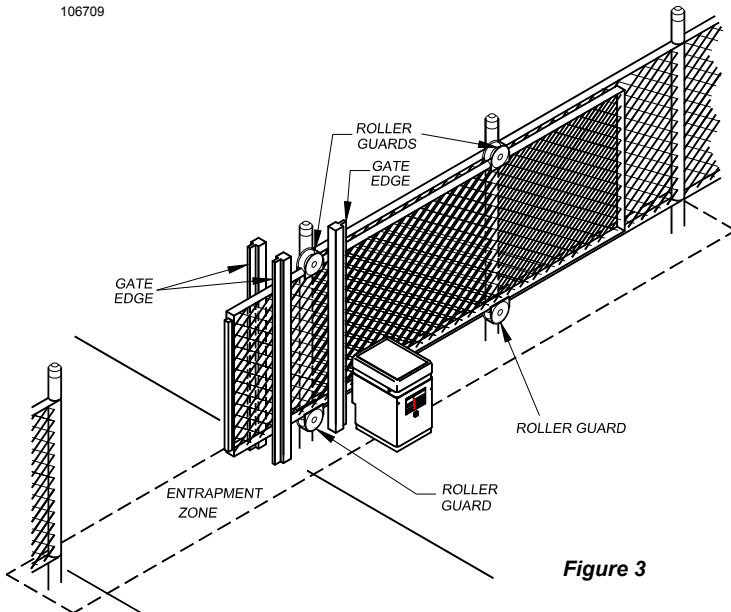

Figure 3
- Use the illustration at left (Figure 3) to minimize the risk of injury in your design of the swing gate operator system. **IDENTIFY THE ENTRAPMENT ZONES AND PINCH POINT AREAS IN YOUR GATE.** Design the gate installation to minimize the risk of entrapment in these areas. Install additional safety equipment such as four wire edges and photocells to further minimize risk. All entrapment zones are required to be protected.
- **Entrapment Zones:** Design in personal entrapment protection devices to protect people from entrapment in the zones shown in Figure 3 at left. Install vertical posts with gate edges attached on both sides of the gate to prevent body entrapment.
- **Pinch Points:** Use protective measures (guards, padded edges, etc.) to protect people from the pinch points shown in Figure 3 at left. Attach roller guards in cantilevered gate systems to minimize the risk of hands being caught between the top of the gate and the roller.